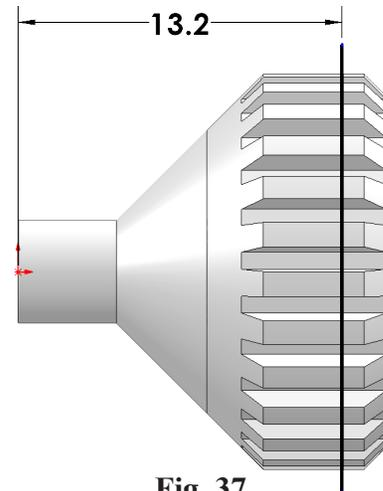

Fig. 37
Step 5. Stretch a vertical line to right of **Origin** , **Fig. 37.**
Step 6. Click **Smart Dimension**  (S) on the Sketch toolbar.
Step 7. Add **13.2** dimension, **Fig. 37.**